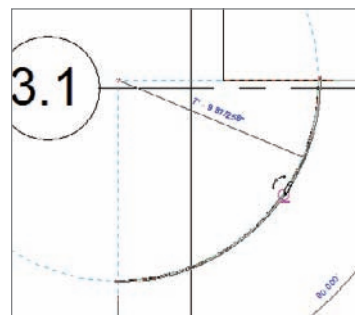

FIGURE 10.37 Picking the third point to form the arc. It will be tangent upon the first two points you picked.
7. To form the arc, move your cursor to the right until the radius snaps into place. When it does, pick the point, as shown in Figure 10.37.